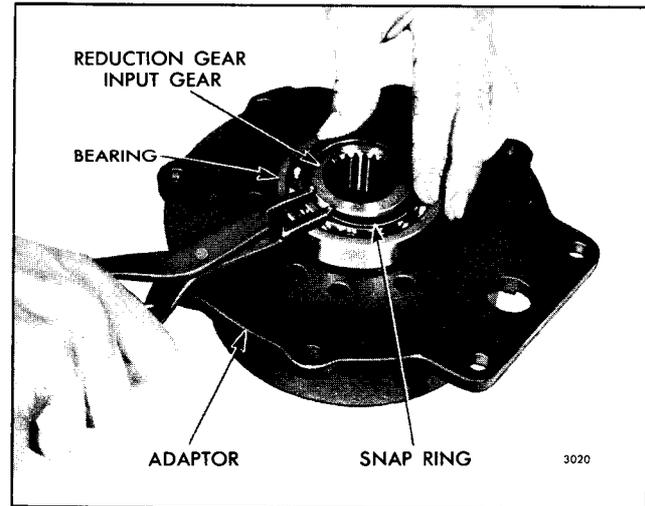

Fig. 39 - Removing or Installing Reduction Gear Input Gear Bearing Snap Ring (1.5:1 Ratio)
- b. Remove the input gear bearing snap ring from the groove in the input gear hub with a pair of snap ring pliers J 5586 as shown in Fig. 39.